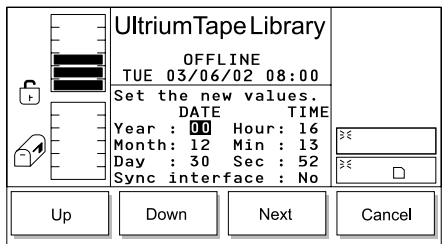

Figure 218. Date/Time Dialog
4. Press the button below the **Date/Time** softkey. The Date/Time Dialog displays (see Figure 218) with the following information: